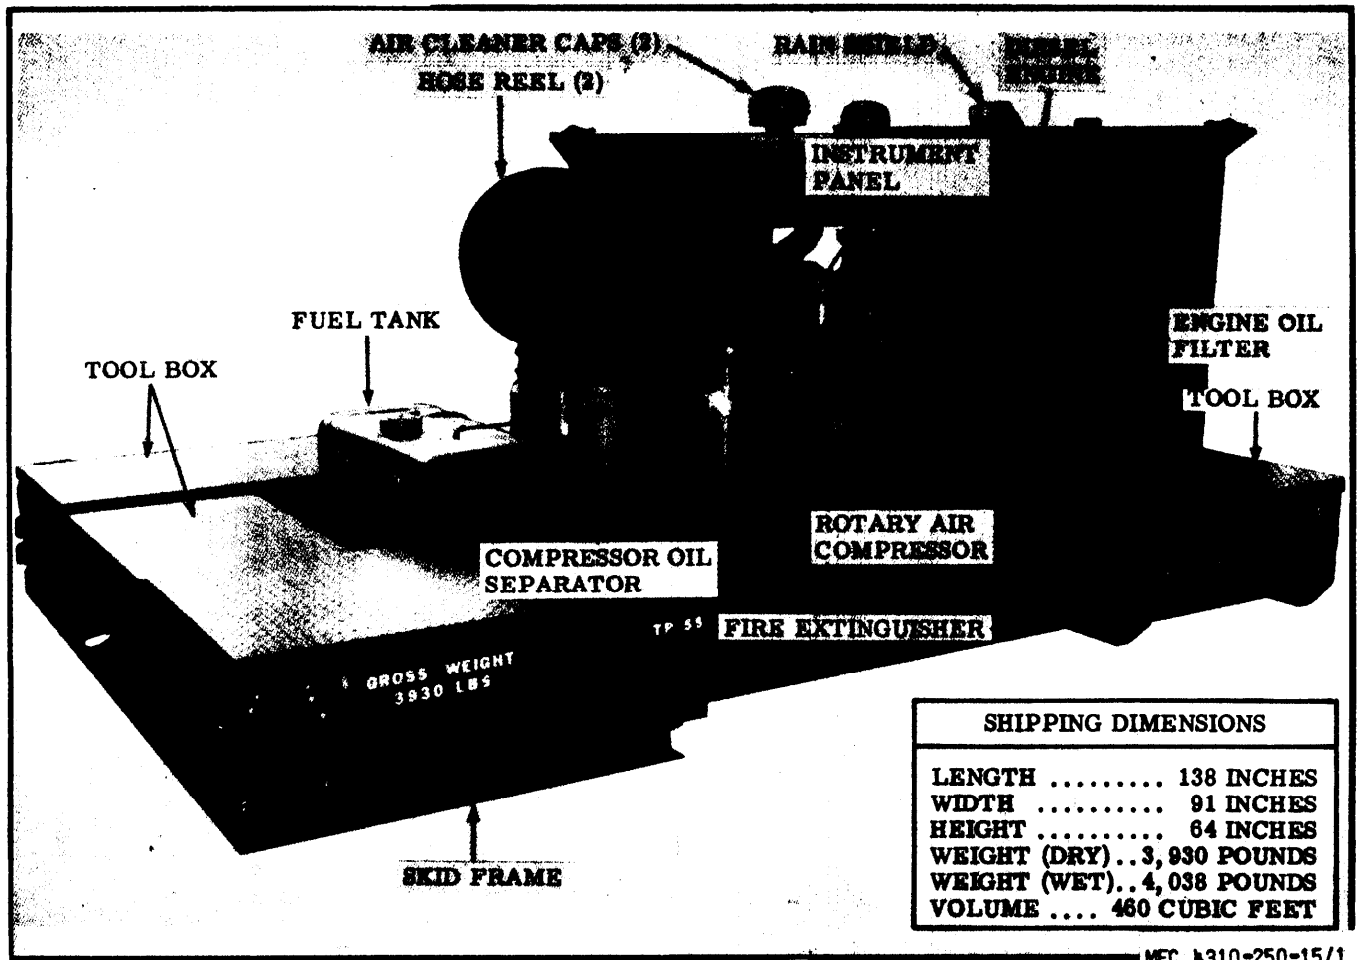

Figure 1. Rotary Air Compressor
a. General. The compressor unit is a skid mounted, diesel engine driven, sliding vane type rotary air compressor. It furnishes 250 cubic feet of free air per minute at a discharge pressure of 100 pounds per square inch. This equipment is manufactured by Davey Compressor Company, Kent, Ohio as their Model M250 RPV, Part Number 45741. (See figures 1 and 2.)